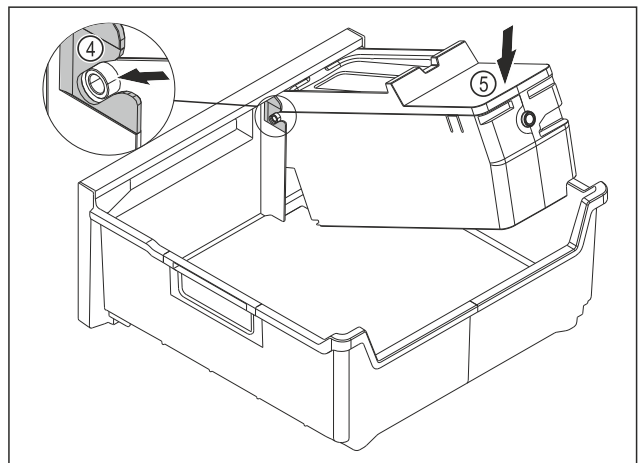

Fig. 201
- ▶ Installing the EasyTwist-Ice body: Push the axes for the EasyTwist-Ice body into the guides Fig. 201 (4).
- ▶ Press the EasyTwist-Ice body Fig. 201 (5) down at the back.